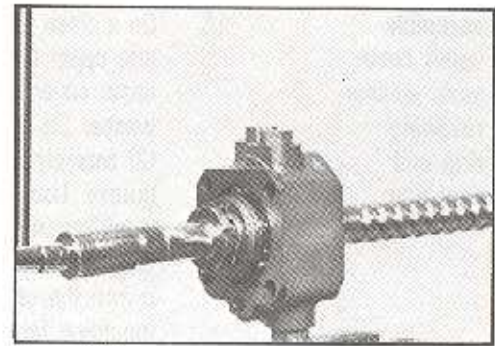

Figure 115
12. Check for free rotation of worm shaft (25B) in valve assembly (18) and for perceptible end play. SEE FIGURE 115.